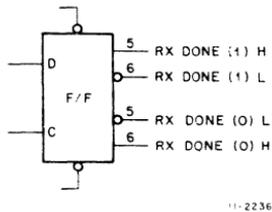

Figure D-1 Flip-Flop Signal Names
Flip-flop signal names add an extra dimension. Although flip-flops have only two outputs, four signal names are possible (Figure D-1). The two real outputs are RX DONE (1) H on pin 5 and RX DONE (0) H on pin 6. The two additional outputs are simply the two real outputs reidentified. RX DONE (1) L is electrically the same as RX DONE (0) H and RX DONE (0) L is electrically the same as RX DONE (1) H. For example, the signal RX DONE (0) L is read "when the RX DONE flip-flop is clear (holding a zero), this signal is at ground."